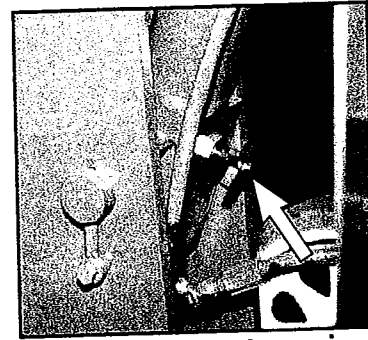

Figure 2-2: Emergency Lowering Valve
5. Close the Emergency Lowering Valve (Figure 2-2), if necessary.
6. Open the Chassis Emergency Lowering Valve (Figure 2-2).